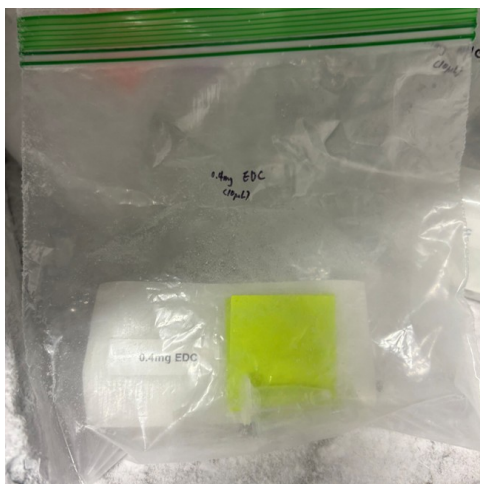

Figure 4: 0.4mg of EDC/50μL of 100 mM MES
- 1 vial (5 uL) of 0.4mg of EDC/50μL of 100 mM MES(Figure 4)